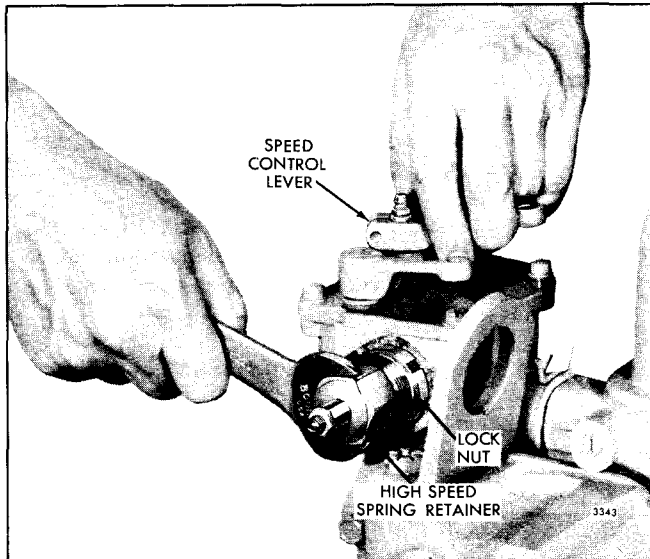

Fig. 6 – Adjusting Maximum No-Load Speed
- Loosen the locknut (Fig. 6) and back off the high-speed spring retainer approximately five turns.